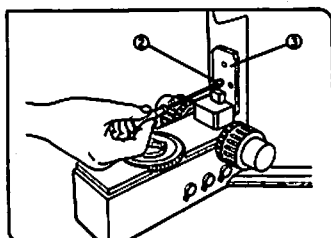

Fig. 45
3. Turn the coarse adjustment knob and raise the focusing block ③ to where the stopper screw ② in the arm becomes visible. (Fig. 45)
4. Using the Allen screwdriver, loosen and remove the upper stopper screw ②.
- Store the removed stopper screw ② in a safe place so that it will not be lost, if needed again.